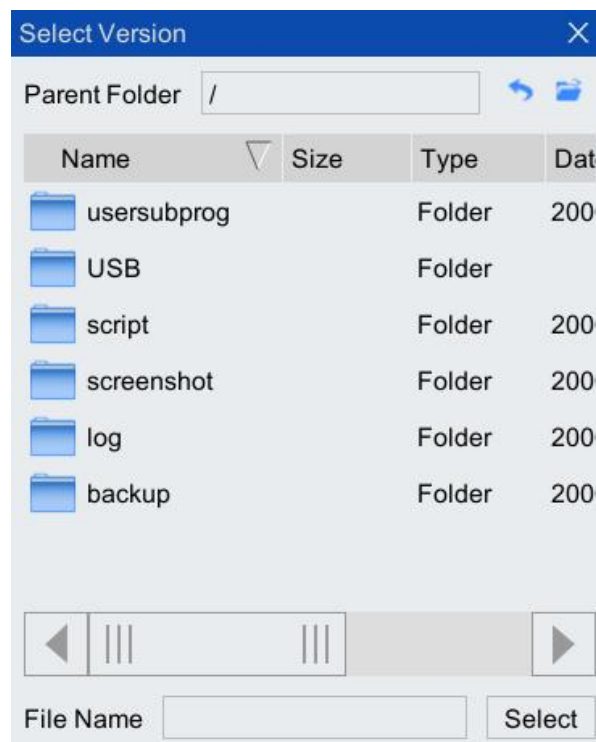

Figure 8-40 "Select Version" interface
- Step1. On the main interface of the teach pendant, click "System > System and Update > Software Update" option, and the "Select Version" list box pops up, as shown in Figure 8-40.